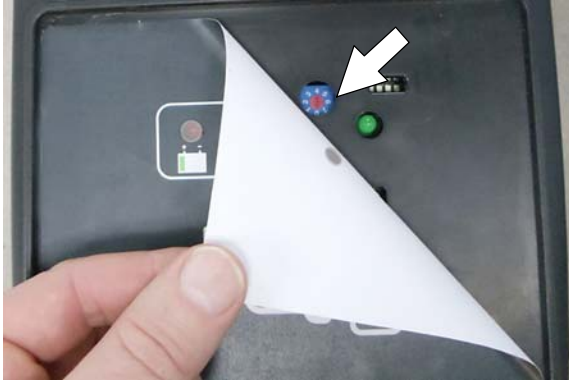

FIG. 124
- Carefully peel back the charger display label to access the dial settings (Figure 124).